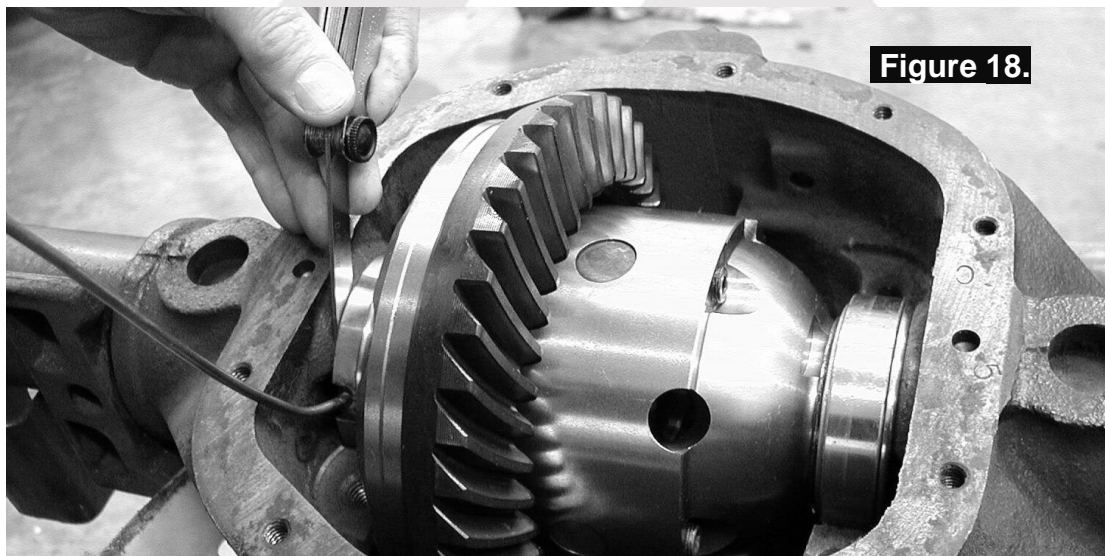

Figure 18.
- Push (or lightly pry) the *Air Locker* hard across to the right-hand side, and measure the maximum gap (also called the 'end float') between the outside of the seal housing and the inside face of the axle housing with an automotive feeler gauge. (Fig.18.)